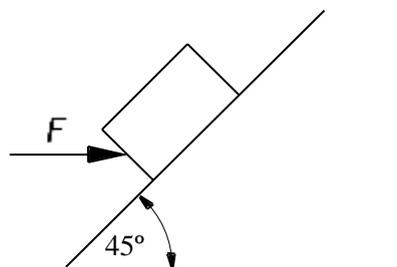

Fig Q2
- (a) label the Worksheet in accordance with Bow's notation and draw to scale the vector force diagram for the framework. Suggested scale 1 kN = 20 mm; (10)
- (b) determine the framework reactions on the hinge and rollers from the vector diagram (2)
- (c) determine the magnitude and nature of the forces in members marked P and Q from the vector diagram. (4)
2. A block of mass 250 kg rests on a plane inclined at 45° . A force F is applied horizontally as shown in Fig Q2. The coefficient of friction between the block and the plane is 0.3.